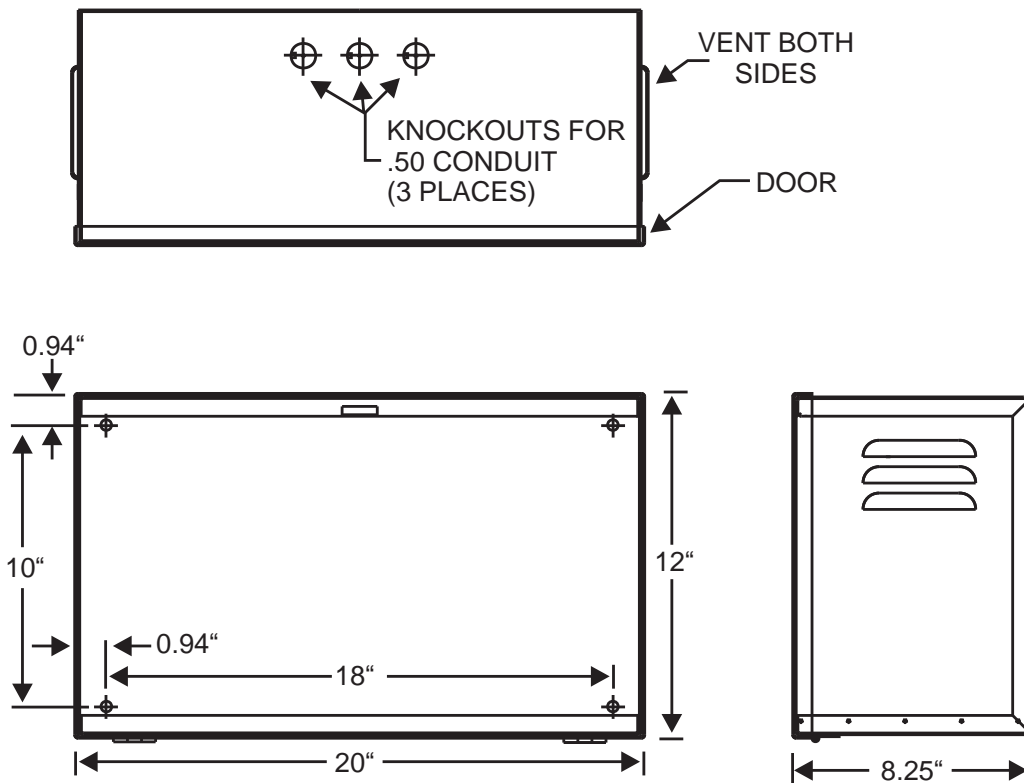

Figure 2-43. Mounting Dimensions for Large Capacity Battery Box
5. Mark and pre-drill holes for four mounting bolts using the dimensions shown in Figure 2-43. Be certain to allow room for ventilation on both sides of the cabinet.